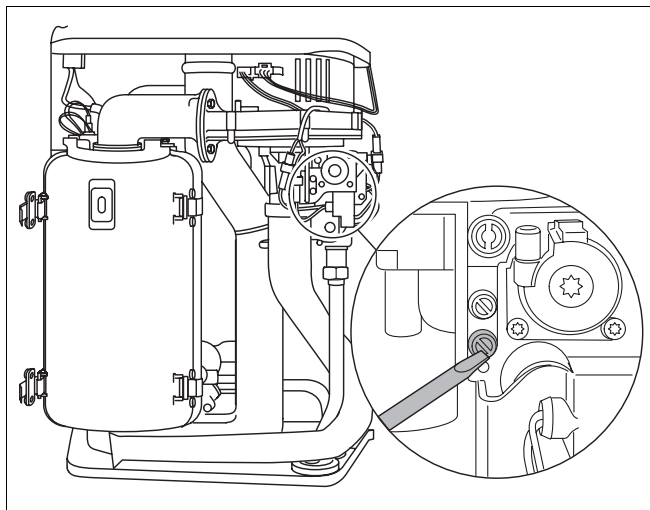

Fig. 31 Purging air from the gas supply system
- Unscrew the sealing closure of the gas connection-pressure testing nipple by two turns (fig. 31).